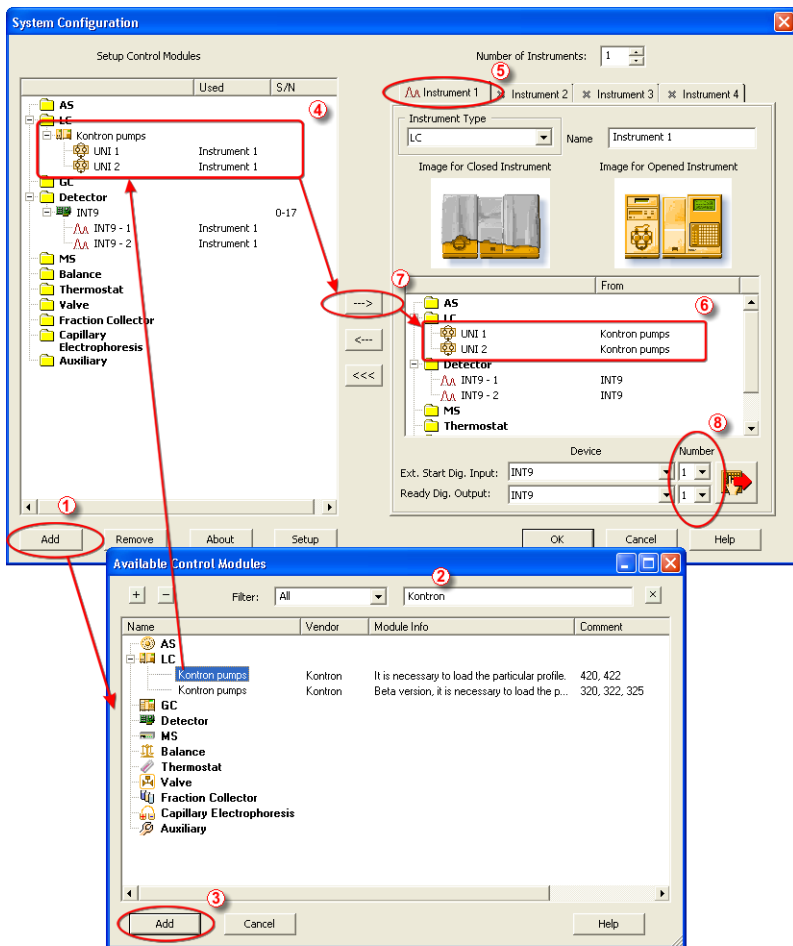

Fig 2: How to add **Kontron pumps**
Press the **Add** button ① (see Fig 2 on pg 5.) to invoke the **Available Control Modules** dialog.